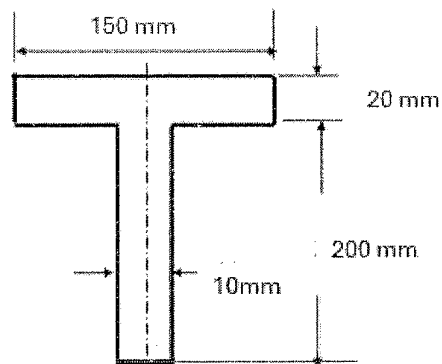

Figure Q5
**Q5** A T-section beam has a flange width of 150 mm, flange thickness of 20 mm, web height of 200 mm, and web thickness of 10 mm as shown in Figure Q5. The beam is subjected to a shear force of 50 kN.